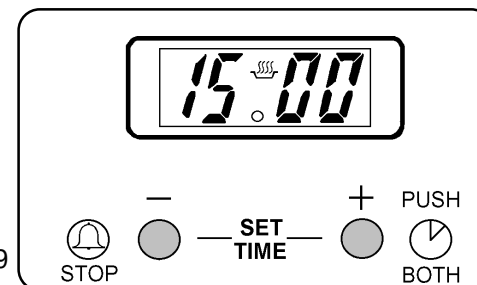

Fig. 9
Release button (1). To reset the time of day, press buttons (1) and (2) together. See Fig. 9.
- * If at first you do not set the time of day correctly, reset the clock by pressing and holding button (1). Release the button. The display will count back to 00:00. After a few seconds the display will reset to show 12:00.
- i) Ensure the electricity supply is switched ON and that the correct time of day is displayed, e.g. 10.00am. Fig. 9.